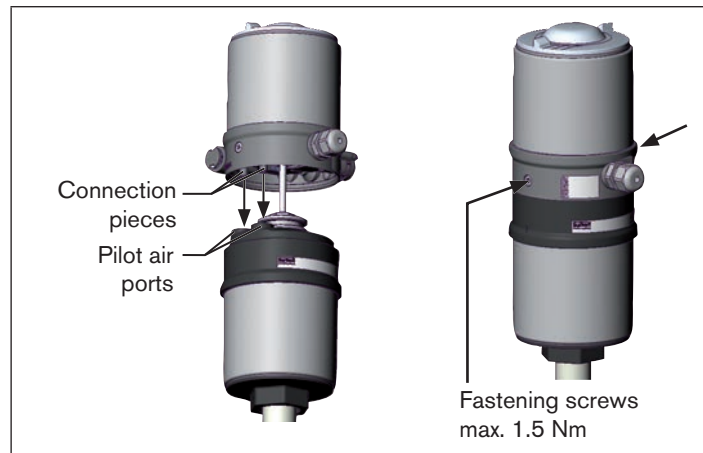

Fig. 12: Installation of linear Remote Sensor, series 2103, 2300 and 2301
2. the connection pieces of the Remote Sensor engage in the pilot air ports of the actuator (see "Fig. 12")